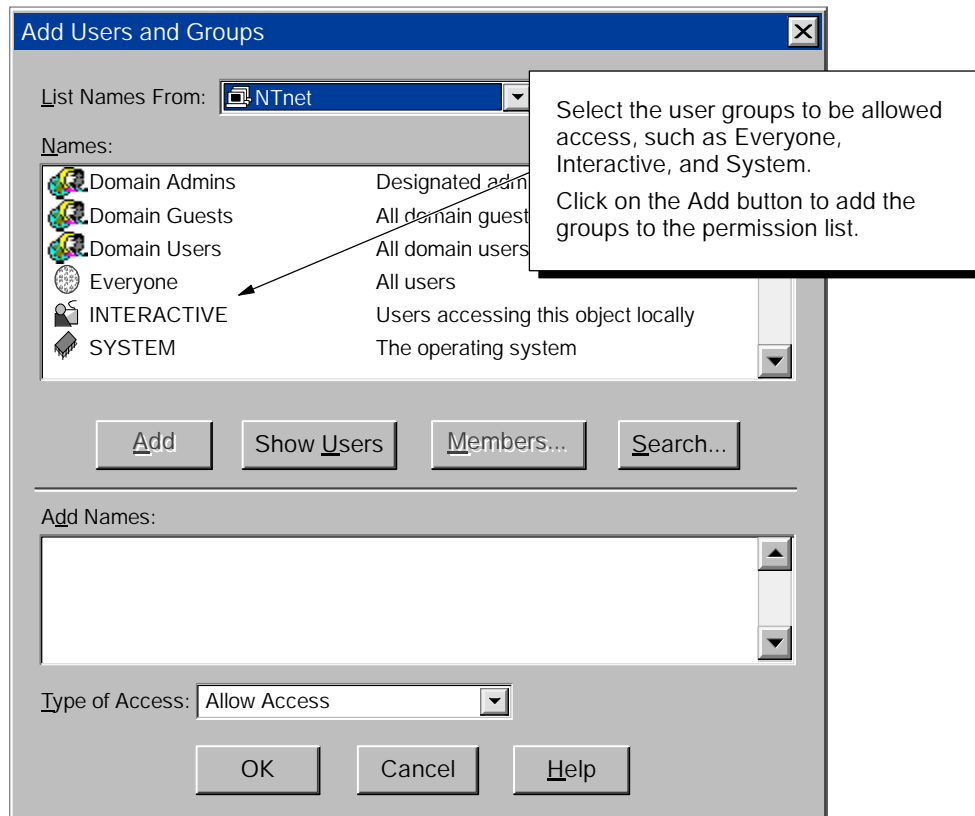

Figure D-7 Changing the Launch Permissions for Users or Groups
2. Click on the Add button to display the Add Users and Groups dialog box and change the security settings for access to the server. See Figure D-7.
3. In the "Names" field of the Add users and Groups dialog box (Figure D-7), select "Everyone" (or the appropriate subset of users) and click on the Add button.